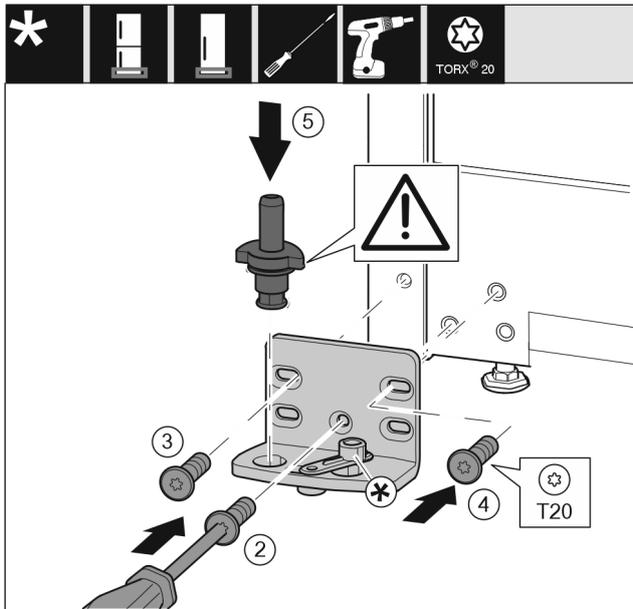

Fig. 16
- ▶ Place the bearing bracket on the other side and screw it on with a T20 screwdriver. Start with screw 2 at the bottom in the middle. Fig. 16 (2)
- ▶ Screw in screws 3 and 4 tightly. Fig. 16 (3,4)
- ▶ Insert the bearing pin completely. Make sure that the latching lug is pointing to the rear. Fig. 16 (5)